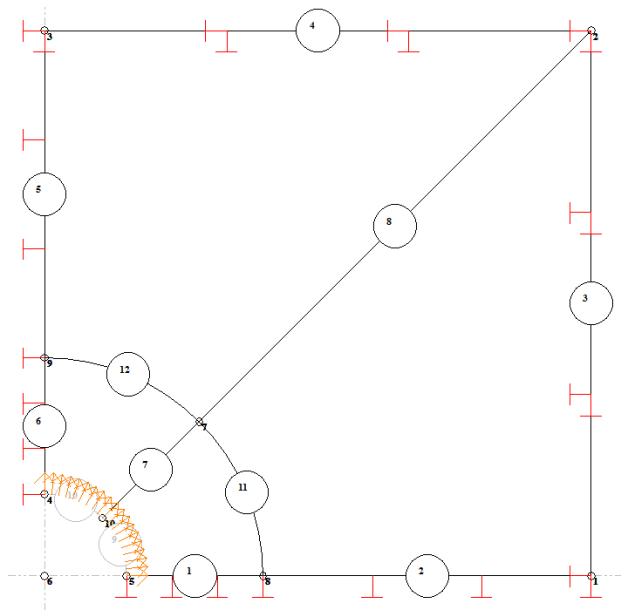

Figure 6.8 Definition of the LICHA in Geometry
5. *LICHA*: To model the force distribution at the interface of the tunnel, use a *LICHA* element (boundary nb° 5). Click first on the segment 10 and then on the segment 9 to make sure the force is applied towards the soil body (figure 6.8).
- **Fluid flux at a boundary:** To simulate a flow at a boundary, use a *LICHT* element (Figure 7.2). The flow law number is assigned to 4 in Figure 7.2, as the law number 3 is already assigned to the *LICHA* element at the tunnel's interface (see Figure 6.8).